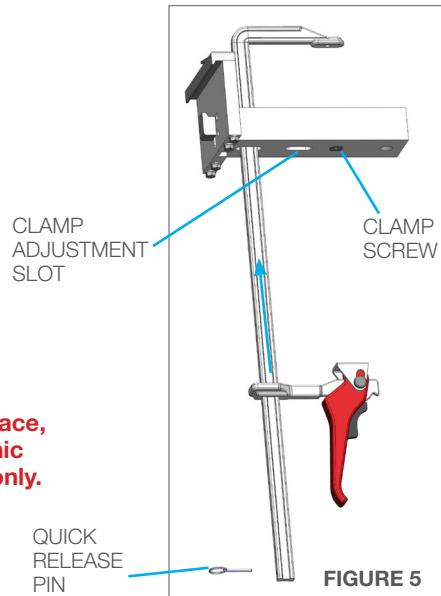

FIGURE 5
5. If more stand-off is needed from the face of the bundle, it is possible to adjust the Clamp by removing Quick Release Pin on the bottom of the vertical bar, sliding off the red Handle Assembly, unscrewing the Clamp from the Channel, and moving the Clamp to the open slot. Relocate the screw to the next position, tighten, and attach the red handle assembly. (**Figure 5**)